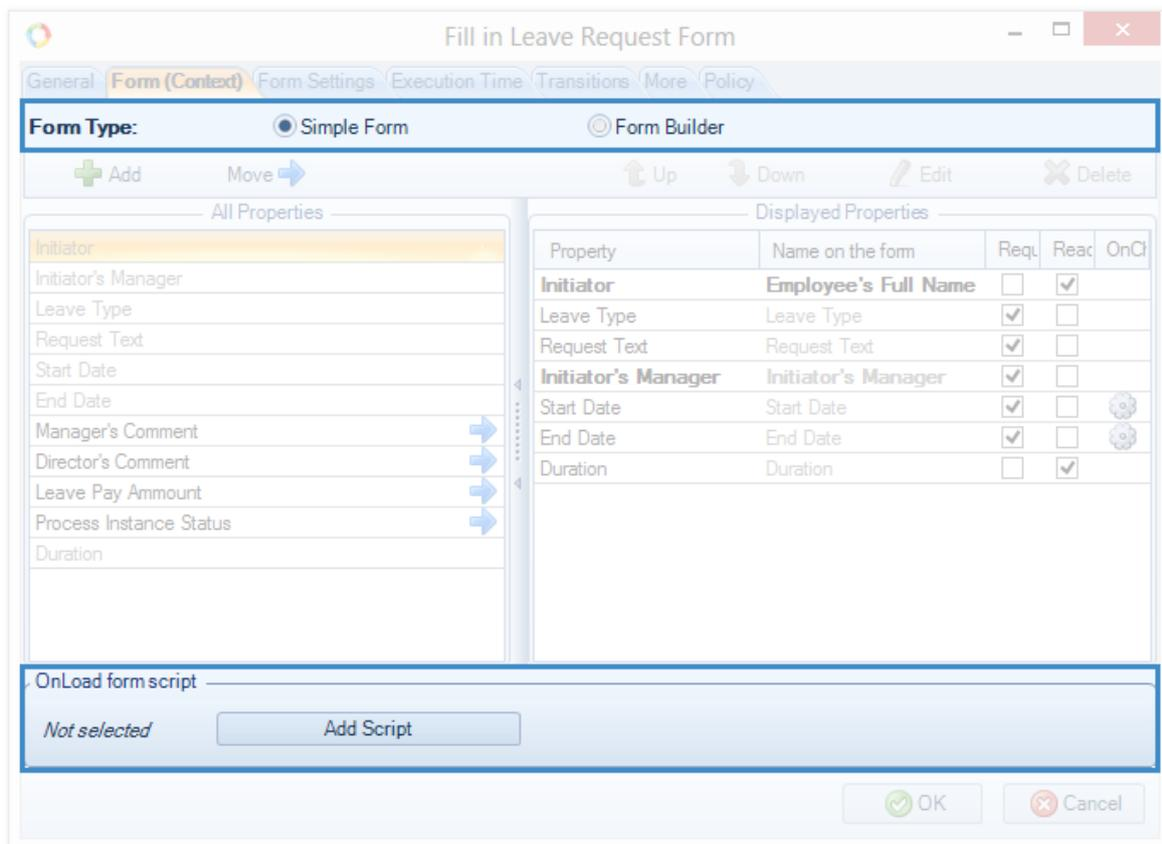
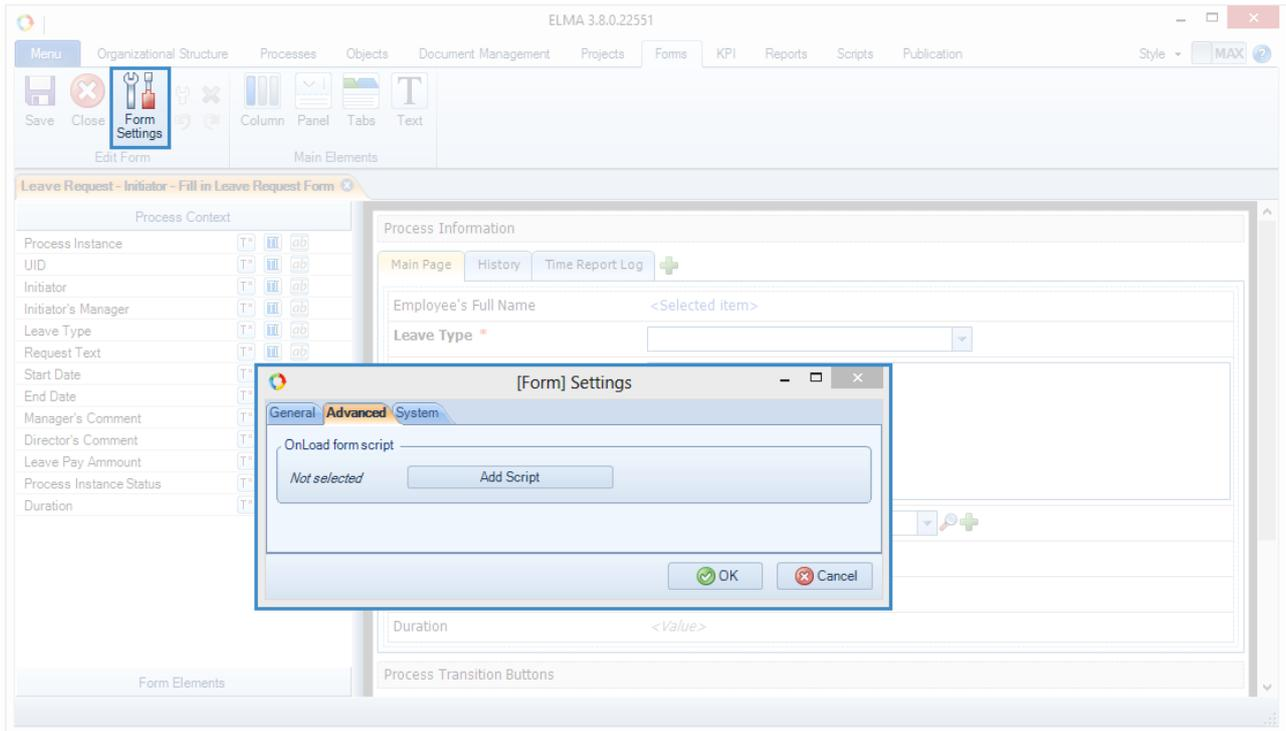

Fig. 150. The location of a script on loading a simple form of the user task
Fig. 151. The location of a script on loading a user task form
E.g. Configure a script on loading a process task form. Open the task page → **Form (Context)** tab → if you have selected **Simple Form** type → click **Specify Script** (Fig. 150). If you have selected **Form Builder** → click **Form Settings** on the toolbar to configure the script on loading a task form (Fig. 151). Find more information about the task forms in p. 5.7.6.
- specify the script on loading the form (the **Advanced** tab) (Fig. 151).